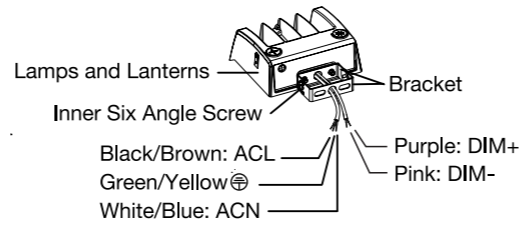

Figure 5.3
STEP 2: Finish the wire connection according to the right mode of connection (pay attention to positive wire, negative wire, and ground wire). (Figure 5.3)